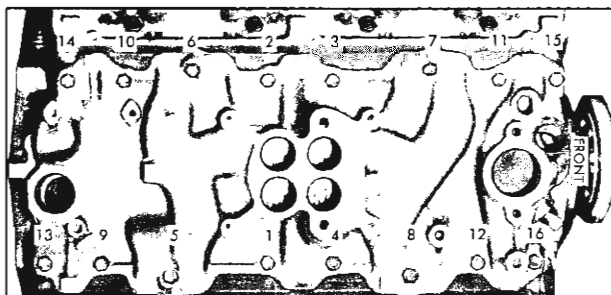

Fig. 136—Intake Manifold Bolt Torque Sequence
10. Install intake manifold (fig. 136) and install bolts. Tighten finger tight. Tighten bolts a little at a time according to sequence shown in Figure 136. Final bolt torque should be 25-35 ft. lbs.